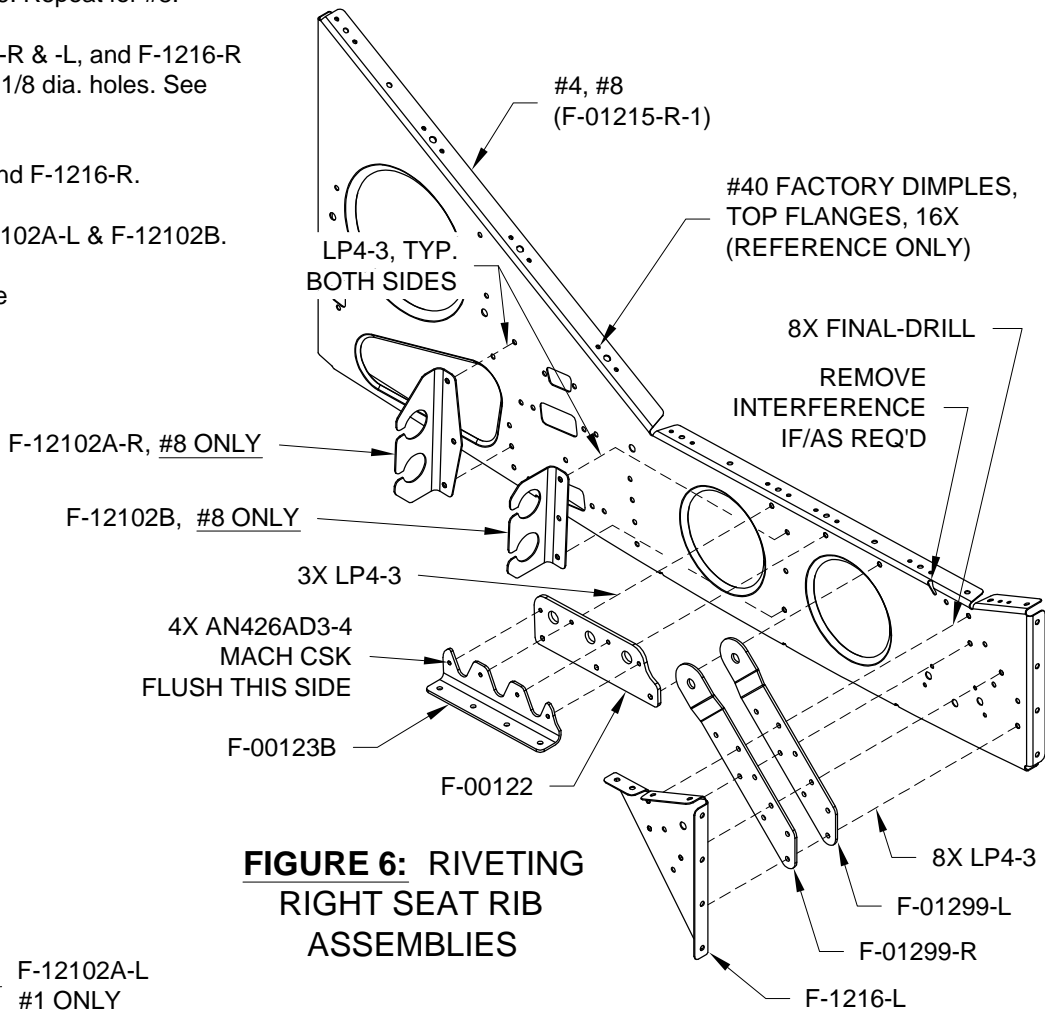

FIGURE 6: RIVETING
Step 7: Cleco F-01299-L to #4. See Figure 6. Inspect for interference at oblong hole in rib #4 per the call-out. File #4 if/as req'd to remove interference. Repeat for #8. Repeat this Step for #1 and #5 using F- 01299-R instead.
Step 9: Machine countersink #40 then rivet together F-00123B and F-00122 per the call-out, then rivet to #4. See Figure 6. Repeat for #8.
Step 11: Cleco then final-drill #30 the eight 1/8 dia. holes in F-1216-L, F-01299-R, F-01299-L and #4 as shown in Figure 6, then rivet them together.